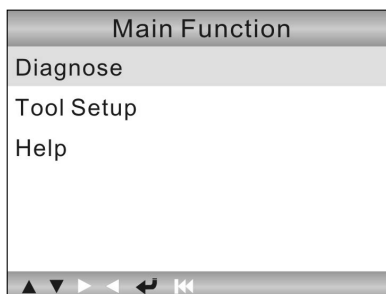

Figure 4-1
5. After finishing, the system will enter the main menu interface, as shown in Figure 4-1.
In Figure 4-1, use [▲] [▼] button to select [Diagnose] and press [↵], the system will switch to the following protocol selection interface: